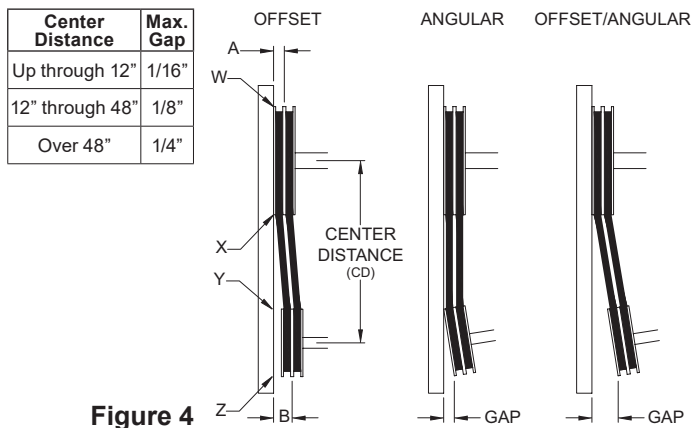

Figure 4
4. Ensure pulleys are properly aligned. Refer to Figure 4.
Figure 4 indicates where to measure the allowable gap for the drive alignment tolerance. All contact points (indicated by WXYZ) are to have a gap less than the tolerance shown in the table. When the pulleys are not the same width, the allowable gap must be adjusted by half of the difference in width. Figure 5 illustrates using a carpenter's square to adjust the position of the motor pulley until the belt is parallel to the longer leg of the square.